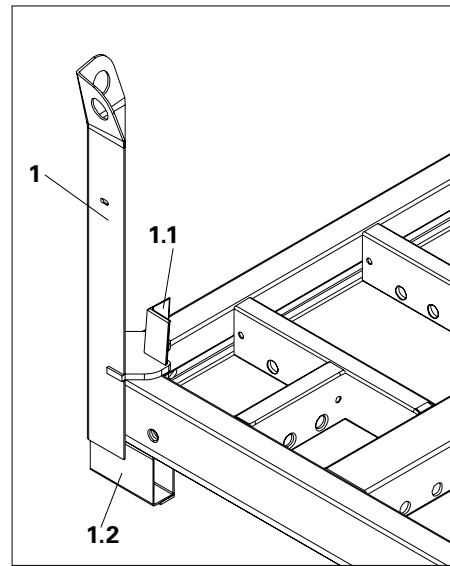

Fig. A1.10
1. Place the first panel with the formlining facing downwards on the rectangular tubes (1.2). (Fig. A1.10)